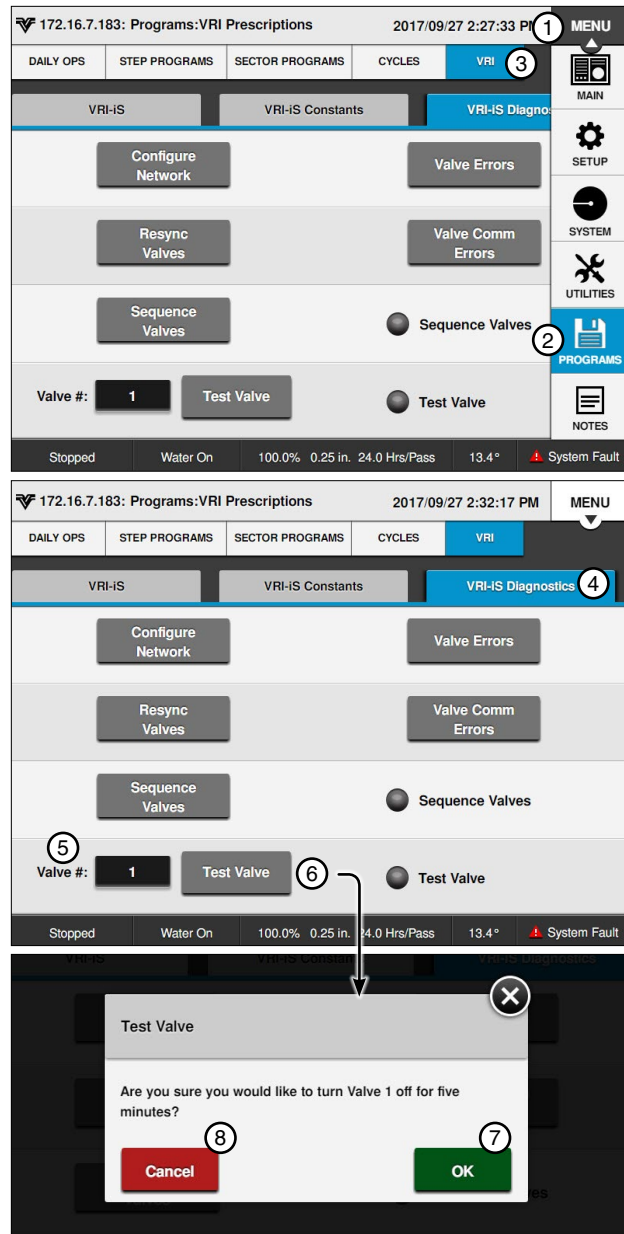

Figure 178-1 1. Menu 5. Valve#
1. Push **Menu**, **Programs**, **VRI**, and **VRI-iS Diagnostics** to display the VRI-iS diagnostics screen. Refer to Figure 178-1.